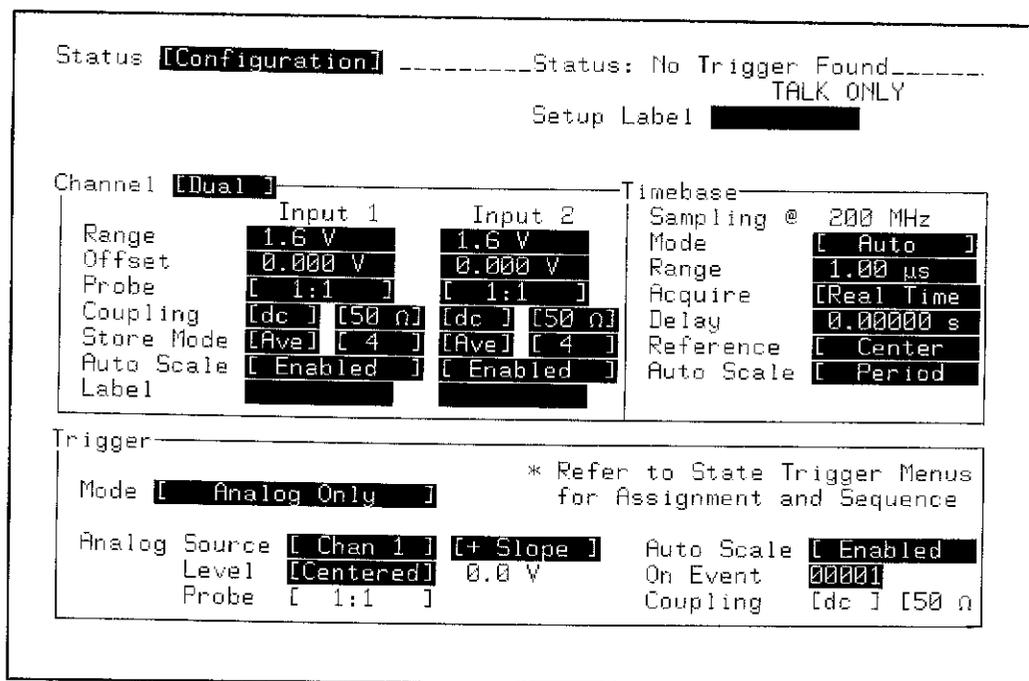

Figure 3-8. STATUS Configuration Menu
2. Configure STATUS Configuration menu as shown in figure 3-8.